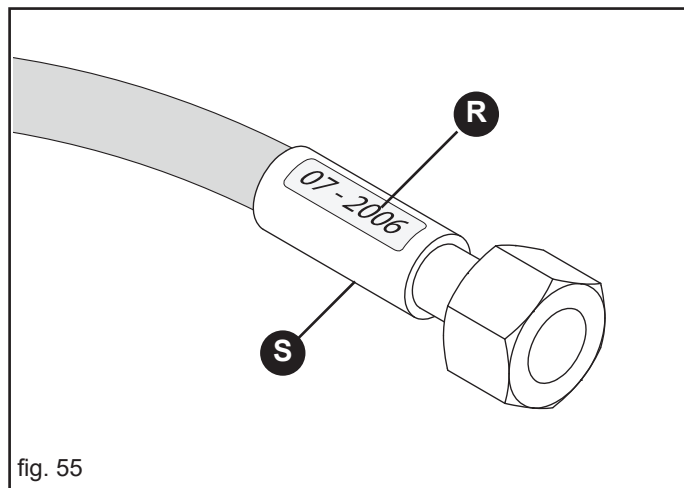

fig. 55
- Figure 55 (R) shows hydraulic pipes bearing the year of manufacture as an example.
- when leaks are identified near the pipe sheath (S, Fig. 55);
- when the sheath is corroded (S, Fig. 55);
- 5 years after their manufacture (R, Fig. 55).